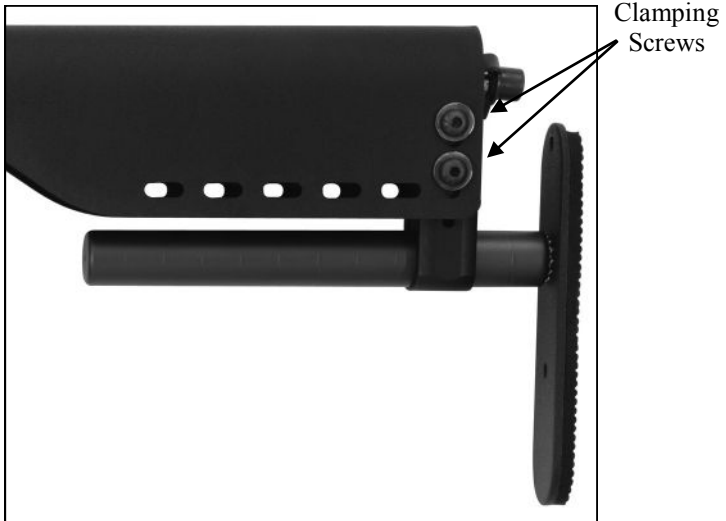

Figure 6.
- The cheek piece may be raised a small amount by loosening the clamping screws as shown in Figure 6.